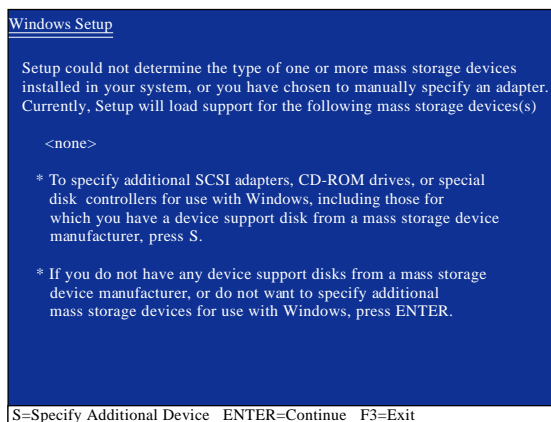

Figure 2
Step 2: When the controller menu (Figure 2) appears ^(Note 3), remove the startup disk and insert the blank formatted disk. Select the controller driver by pressing the corresponding letter from the menu. For example, in the menu in Figure 2, to install Windows XP (32-bit) onto your RAID drives, press <2> to select **2)NVIDIA MCP73 RAID DRIVER**. Your system will then automatically zip and transfer this driver file to the floppy disk. Press <0> to exit when finished.
When a screen similar to that below appears, insert the floppy disk containing the SATA RAID/AHCI driver and press <S> (Figure 2).